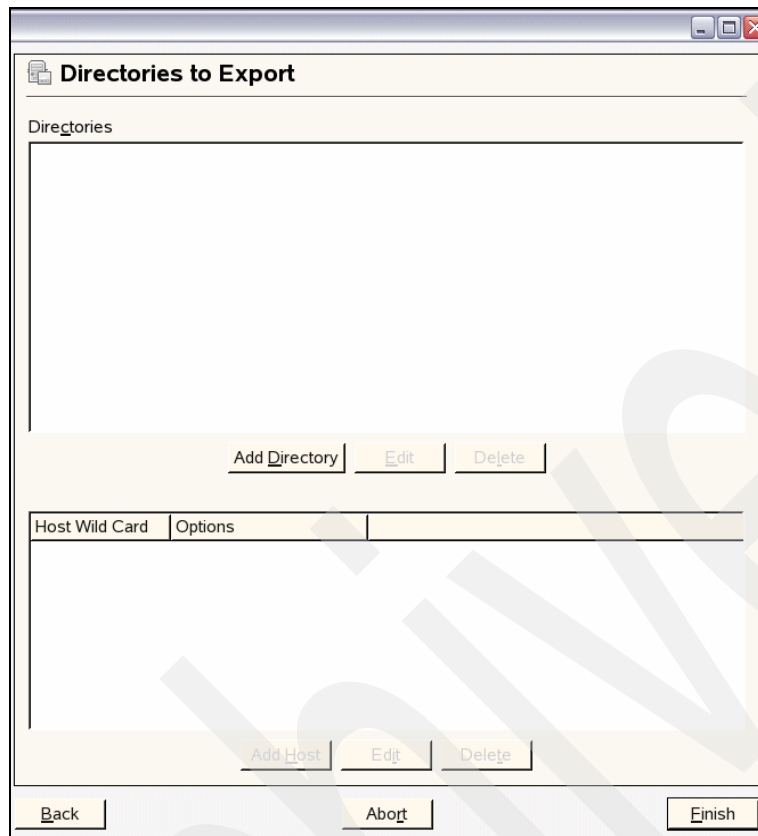

Figure 6-9 NFS Configuration - Directories to Export
2. Select **Start** and then click **Next** to display the Directories to Export window (Figure 6-9). At first, there will be no entries because the DR550 FSG has no shares preconfigured for NFS export.